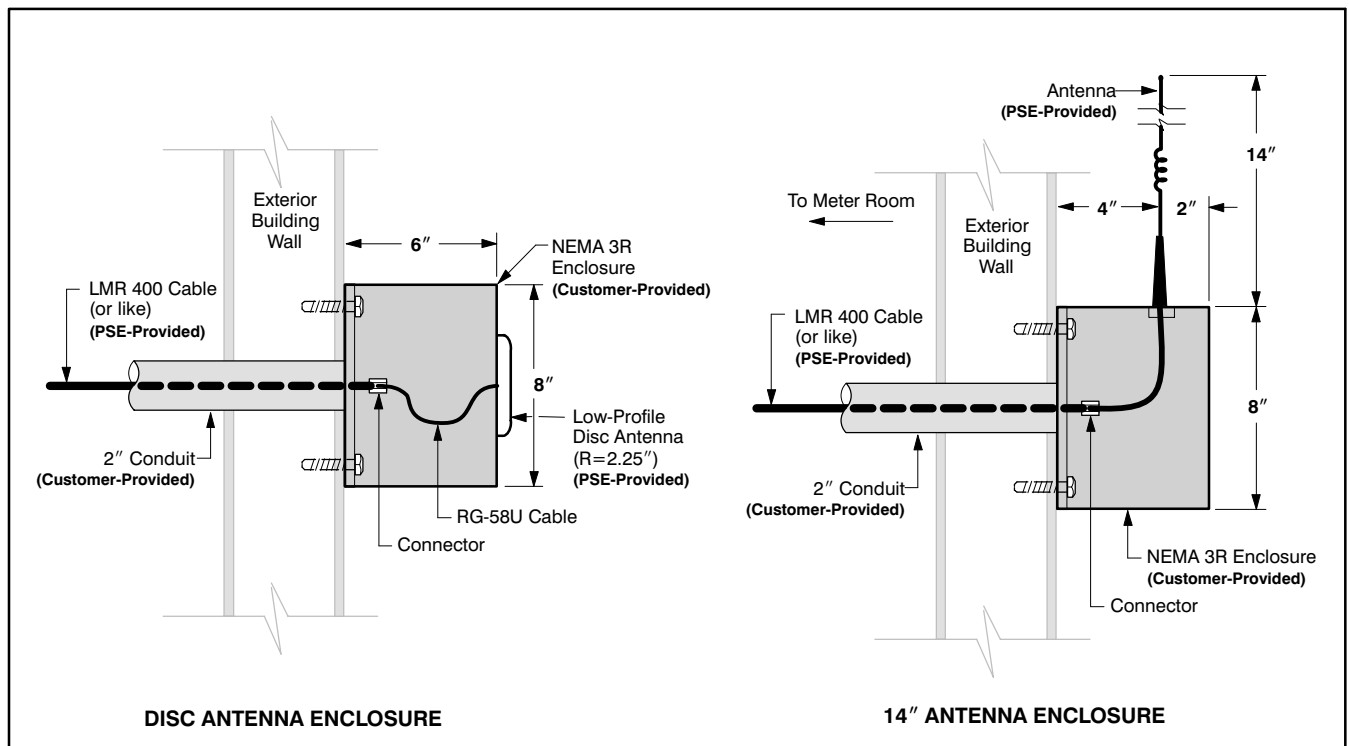

Figure 18 Typical 8 in. x 8 in. x 6 in. exterior wall-mounted AMR antenna installations
- A 2-inch conduit, from each electrical equipment room to a NEMA 3R enclosure used for the automated meter reading (AMR) antenna. The conduit shall have a maximum of 360 degrees in total bends and be no more than 25 lineal feet total length. If a single meter is installed within the equipment room, the total length of the conduit may be extended to 70 lineal feet. Contact CCS if the conduit length is greater than 25 feet. Antenna enclosure requirements are shown in *Figure 18*. A 1/8-inch minimum pull string is to be provided in the conduit.
- If the building has multiple aboveground equipment rooms (allowed in high-rise residential only) where meters are located, a 2-inch conduit pathway connecting all of the equipment rooms shall be provided for the AMR antenna cable. From the top level equipment room, provide a 2-inch conduit to a NEMA 3R enclosure mounted on the roof of the building. Mount the enclosure above the building facade and other obstructions. Preferred locations are adjacent to or on top of the rooftop mechanical room or within antenna farm locations (see *Figure 18*).